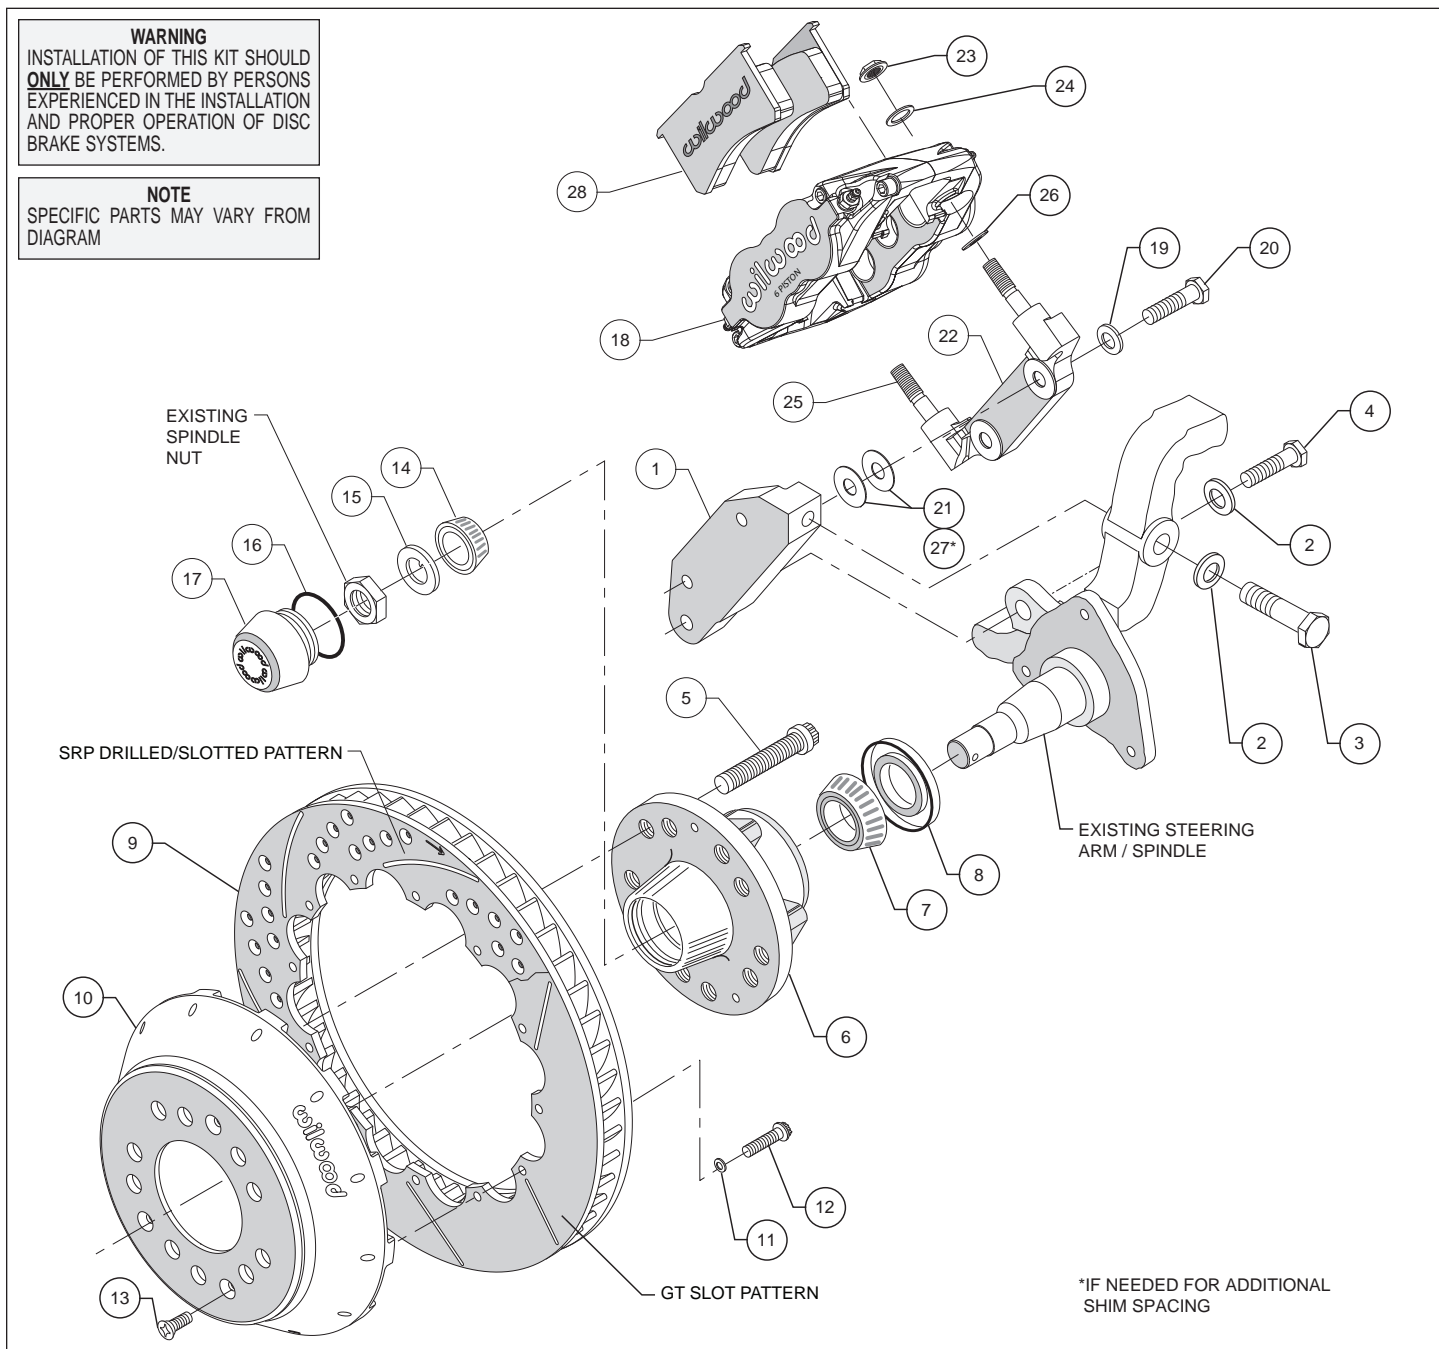

Figure 1. Typical Installation Configuration
- Mount the radial mount caliper bracket (22) to the first "flat" caliper mounting bracket (1) from the far side using washers (19) and bolts (20), as shown in Figure 1. Initially place two .030 thick shims (21) between the two brackets. Temporarily tighten the bolts.
- NOTE:** This kit contains distinct right and left hand calipers that must be mounted in a specific direction, as described below. Lubricate the caliper mounting studs (25) with lightweight oil. Initially place one .035" thick shim (26) on each stud as shown in Figure 1. Mount the caliper (18) onto the bracket (1) using lock nuts (23) and washers (24), Figure 1. Ensure that the caliper is mounted so that the largest pistons are at the rotor exit end of the caliper, in relation to the direction of rotor rotation. Temporarily tighten the lock nuts and view the rotor through the top opening of the caliper. The rotor should be centered in the caliper. If not, adjust by adding or subtracting .030" shims (21), or add .015" thick shims (27), as necessary between the radial mount bracket (22) and the flat bracket (1). Always use the same amount of shims on each of the two mounting bolts. Once the caliper alignment is correct, remove the bracket mounting bolts (20) one at a time, apply red *Loctite*® 271 to the threads, and torque to 42 ft-lb.